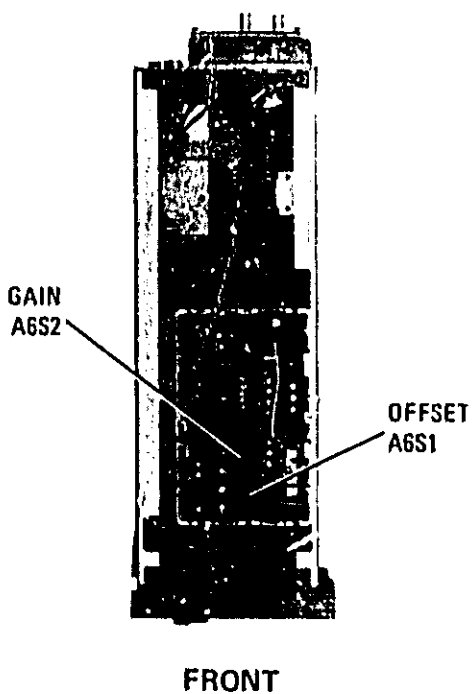
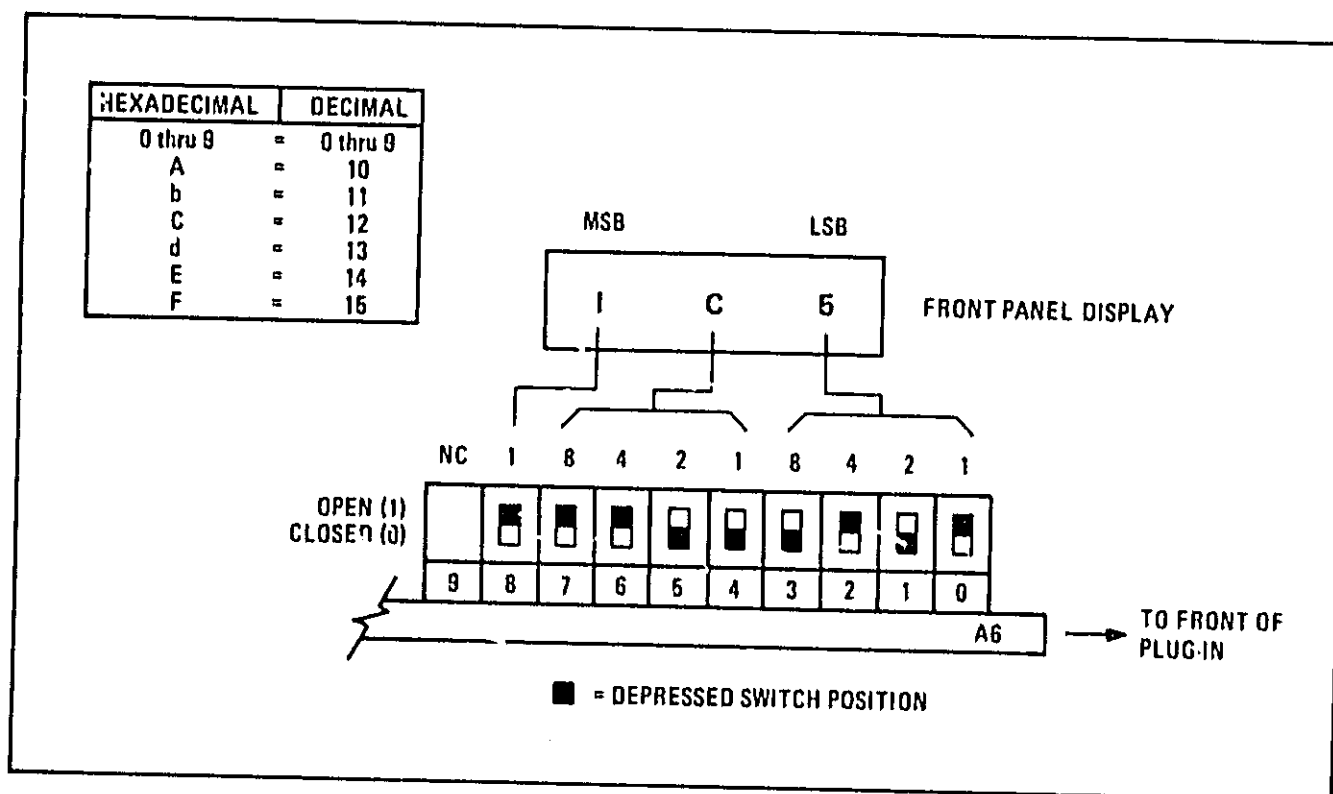

Figure 5-10. Frequency Calibration Adjustments Location
Figure 5-11. A6S1 and A6S2 Frequency Calibration Switch Configuration
14. Set switch **A6S1** (Figure 5-10) for the value displayed in **POWER** window. Refer to the diagram in Figure 5-11.
20. Set A6S2 (Figure 5-10) for the reading displayed in the **POWER** window.